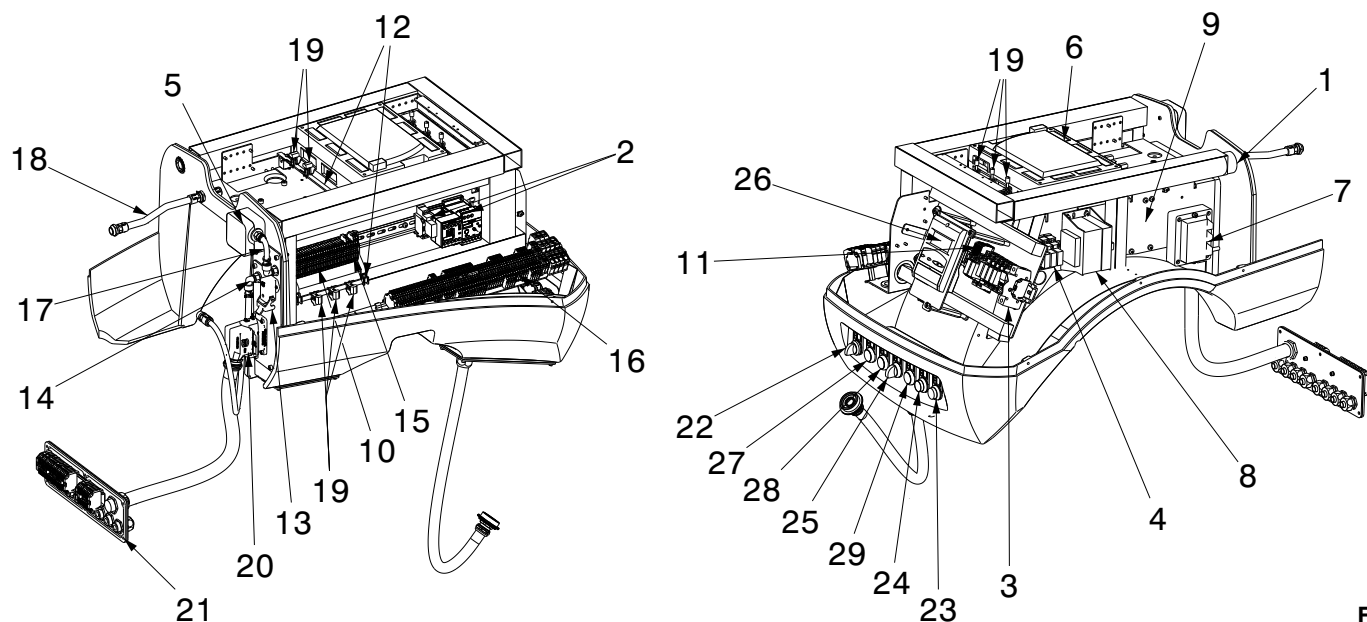

Fig. 6
- **Control box lockout:** the switching on of the button (**red led**) 13)(Fig. 6) signals that the burner is in lockout. Release by pressing button 13)(Fig. 6) or use the display.